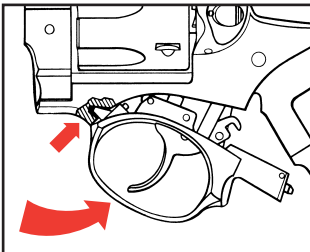
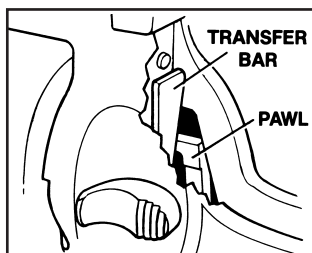

Figure 7
Figure 9
6. Use mainspring assembly to depress trigger guard lock plunger located inside frame at rear of trigger guard. Simultaneously pull down and remove trigger guard assembly (See Figures 7 & 8).
2. Hook front of trigger guard into recess in frame (See Figure 7). Align pawl in its recess in the frame and be sure transfer bar is in correct position in rear of firing pin. Swing trigger guard upward into position in frame then allow latch to re-engage. If solid resistance is felt when swinging trigger guard into frame, or if trigger guard will not lock into position re-check position of pawl and transfer bar (See Figure 9).